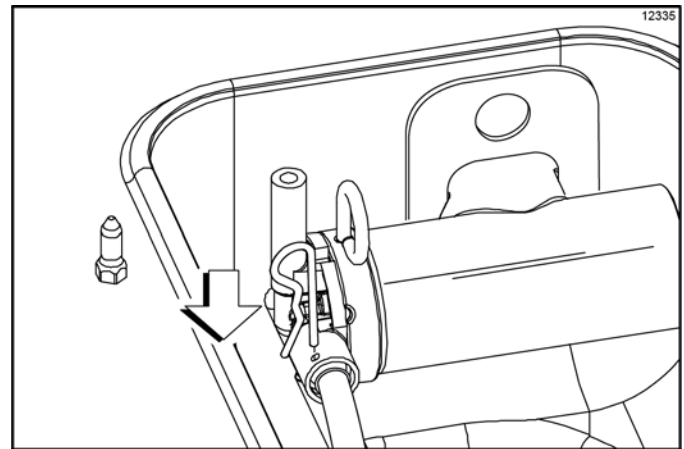

Figure 6-58
- When the mix stops bubbling down into the freezing cylinder, remove the cotter pin from the outlet fitting of the mix pump. Insert the outlet end of the mix feed tube into the mix inlet hole in the mix hopper. Place the inlet end of the mix feed tube into the outlet fitting of the mix pump. Secure with the cotter pin. (See Figure 6-58.)